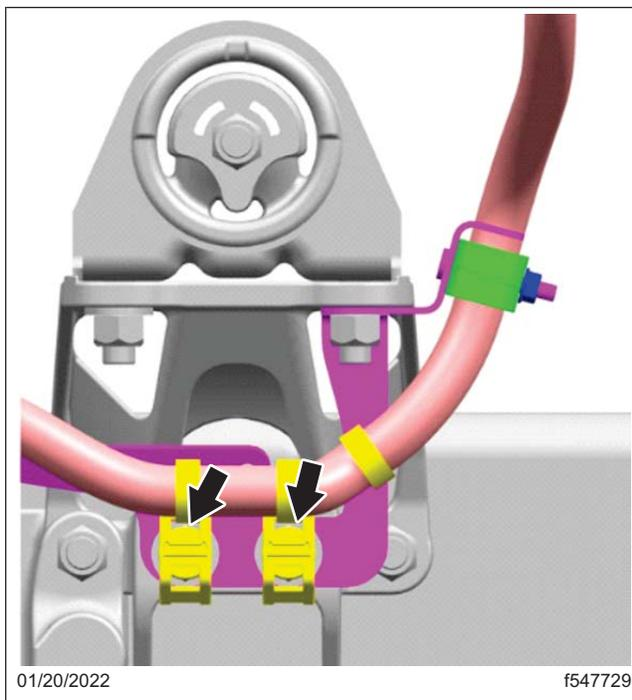

Fig. 18, Push-On Tie Mounts Installed
13.1 Install the two push-on tie mounts (23-13805-062) on the exposed thread portion of the two right side cab mount frame bracket bolts. See Fig. 18.